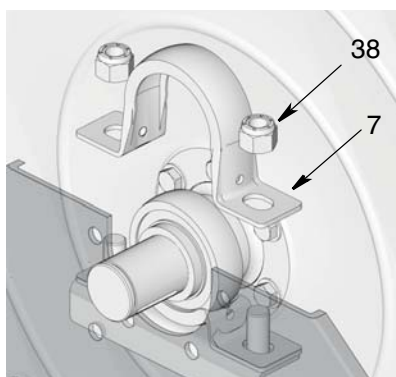

FIG. 40
- a. On the spring side, install retainer (7) and nuts (38).
- b. Torque nuts to 25 to 35 ft lbs (33.9 to 47.45 N.m) (FIG. 40).